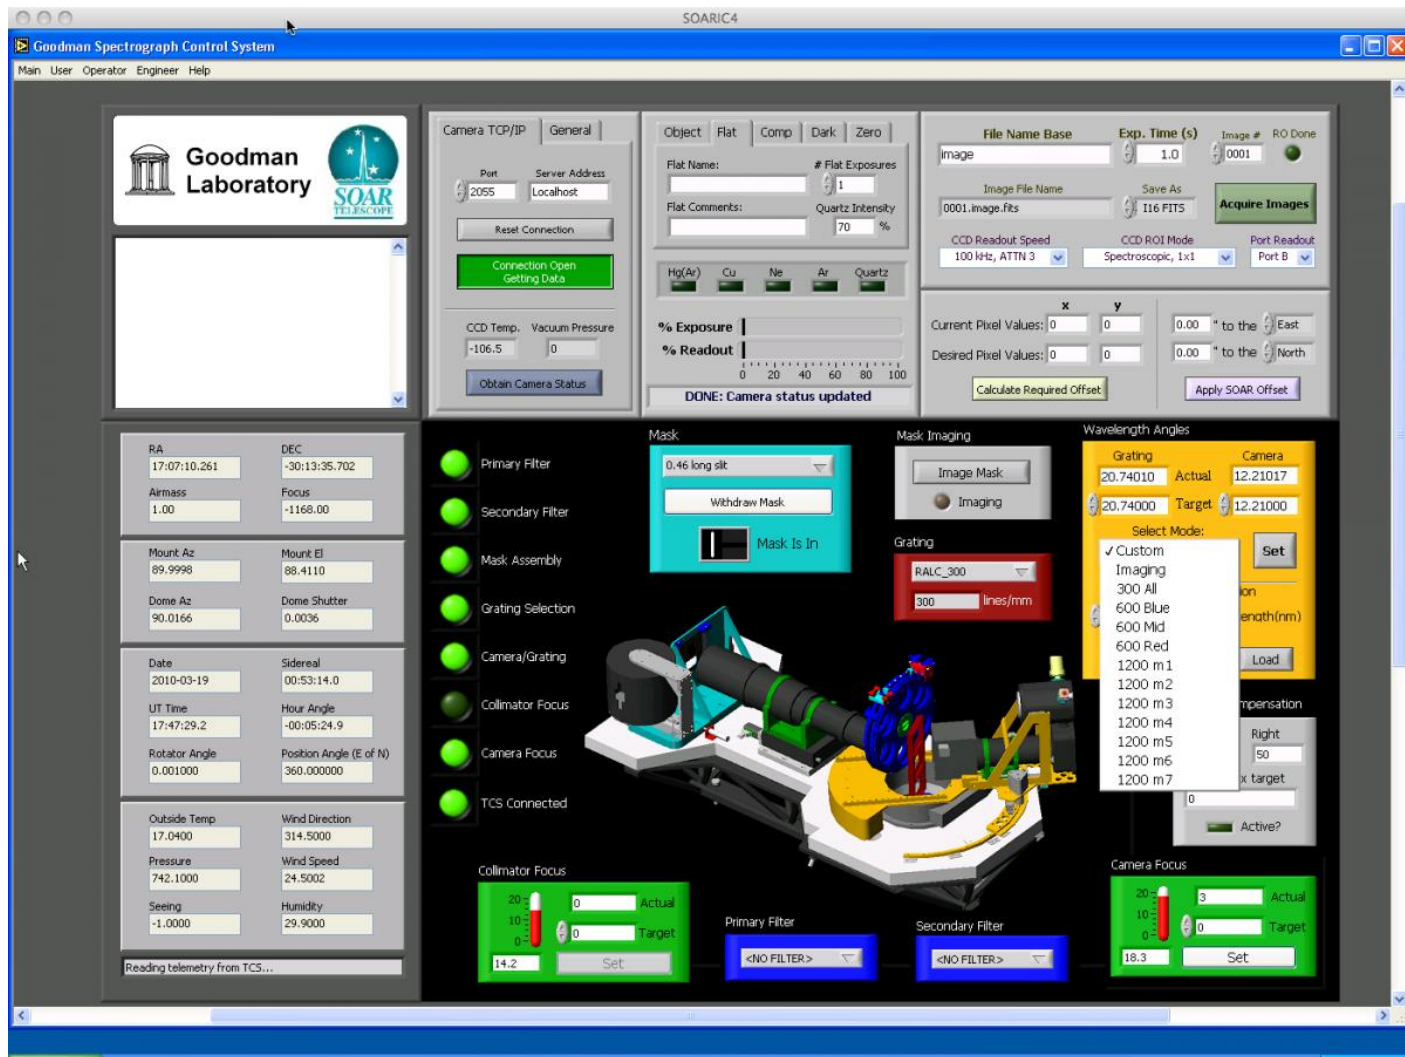

Figure 8: Selecting the camera and wavelength angles.
- Select the camera and grating angles (See Figure 8).